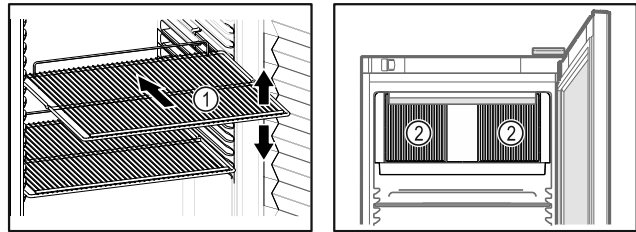

Fig. 58 Example illustration Fig. 59
- If there are adjustable shelves Fig. 58 (1), position them as required.